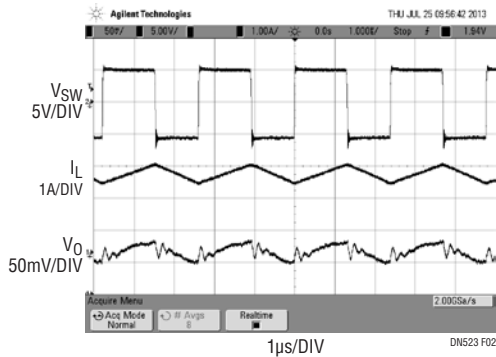
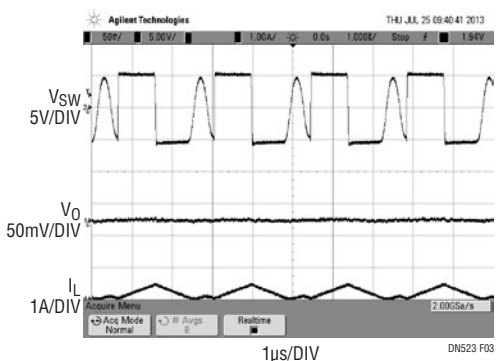
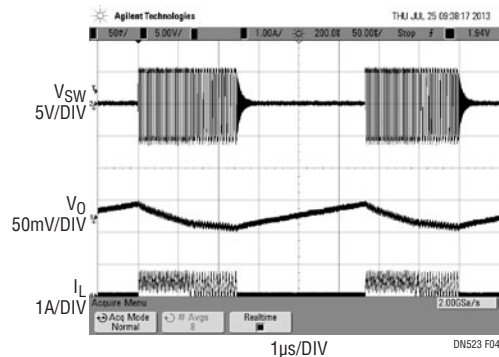

Figure 2. Switch Node Voltage, Inductor Current and Ripple Waveforms at 5V Input and -5.2V Output at 1.7A
Figure 3. Switch Node Voltage, Inductor Current and Ripple Waveforms at 5V Input and -5.2V Output at 70mA in Pulse-Skipping Mode
Figure 4. Switch Node Voltage, Inductor Current and Ripple Waveforms at 5V Input and -5.2V Output at 70mA in Burst Mode Operation
Figure 2 shows the switch node voltage, inductor current and ripple waveforms at 5V input and -5.2V output at 1.7A. The inductor is charged (current rises) when the PMOSFET is on, and discharges through the diode to the output when the PMOS turns off. Figure 3 shows the same waveforms at 70mA out in pulse-skipping mode. Notice how the switch node rings out around 0V when the inductor current reaches zero. The effective period stops when the current reaches zero. Figure 4 shows the same load condition with Burst Mode operation enabled. Power dissipation drops by
Each parameter, then, should have a particular weight of importance per the application. In some cases, for example, bandwidth (BW) might be the most important spec so other parameters are allowed to suffer a bit if the right amount of BW can be achieved. Figure 2 illustrates the input network for a GPS converter. Each resistor in the network is like a variable. But as each of these resistor values is varied to create essentially the same input impedance, the performance parameters will change (*see the table*).
The impedance matching network is roughly the same, but the yielded results between these three examples are different across the measured parameters needed to design the front-end network. The match here is the best result for all the parameters involved where in this case more than 2.5 GHz of BW was required. This narrows the choices down to Case 1 and 2 (*Fig. 3*).
Temperatures T_B and T_A are monitored separately by standard negative-temperature-coefficient (NTC) thermistors (10 kΩ at 25°C) with corresponding resistance values of $R_{T(B)}$ and $R_{T(A)}$, respectively (Fig. 2). Both sensor output voltages, V_B and V_A , are then applied to the inputs of a basic passive adder created by R2 and R3. At $T_B = T_A = 20^\circ\text{C}$ (i.e., $T_{DIFF} = 0^\circ\text{C}$) $V_B = +2.75 \text{ V}$ and $V_A = -2.75 \text{ V}$, the passive adder's output voltage is